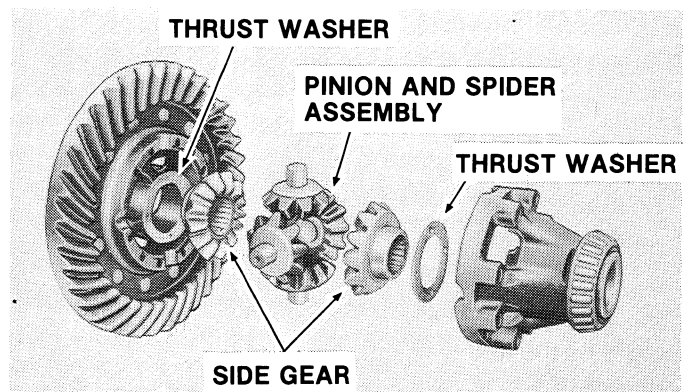

**Figure 21. Bearing Installation**
2. If a new bearing is to be installed on the other case half, press on the bearing using a OTC No. 12 driver, Figure 21. Press bearing down until it contacts the shoulder on the case.